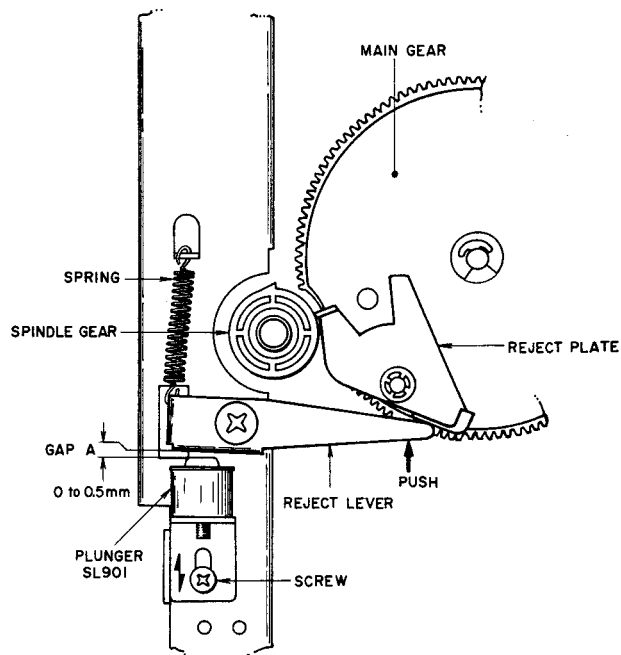

Fig. 27
2. RETURN PLUNGER INSTALLATION POSITION ADJUSTMENT (Refer to Fig. 27)
Depress the reject lever with a finger until the reject plate touches the spindle gear. See Fig. 27. Now, in this position, move the plunger (SL901) and adjust the installation screw until gap A between the reject lever and plunger is 0 to 0.5 mm. Turn the hook to which the spring is attached because sometimes the reject lever is not pulled back when the plunger is operated if the spring is too strong.